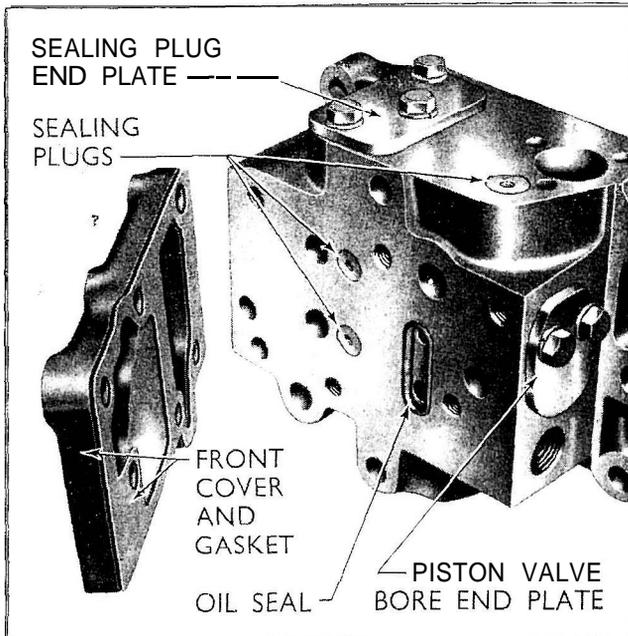

Fig. 189
- 1 Unscrew and remove the six bolts (and lockwashers) retaining the cover plate to the valve body. Detach the cover plate and gasket which will expose a rubber sealing ring in a recess in the centre of the body. (See Fig. 189.) Remove this sealing ring.
- 4 Insert a screw ($\frac{1}{16}$ in. dia.) in the tapped hole of each of the sealing plugs and pull them out of the valve body. (See Fig. 189.)